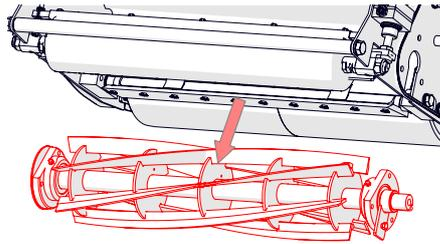

Fig.12M - Remove the entire cylinder and bearings from the machine
14. Tip the machine back to gain access to the underside. Remove the cylinder (Fig. 12M). It is now free to be replace/re-ground.